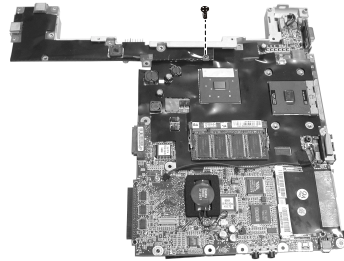

Figure 2-37 Remove the bracket
6. Carefully put the system board upside down. And remove one screw. Then separate the bracket. (Figure 2-37)